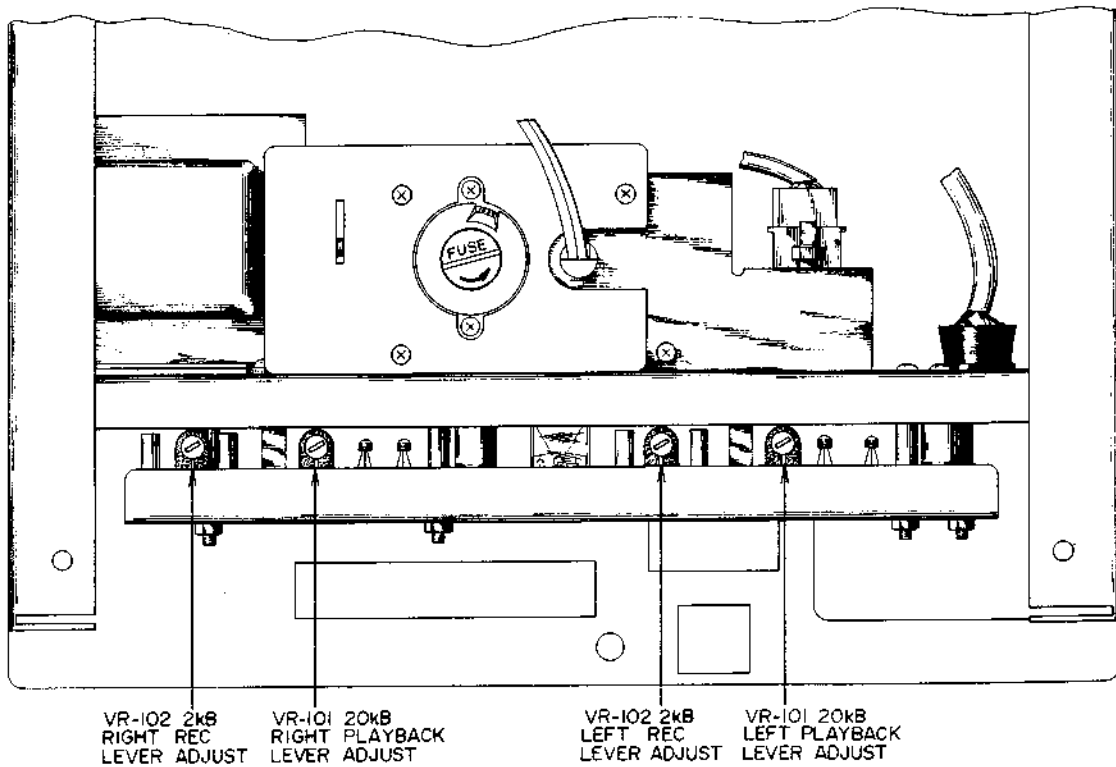

Fig. 7-1
- d) Adjust the VR 101 (semi-fixed resistor 20 K-B, Fig. 7-1) of the pre-amplifier so that Line Output Voltage indicates 1.228 V (± 4 dbm).